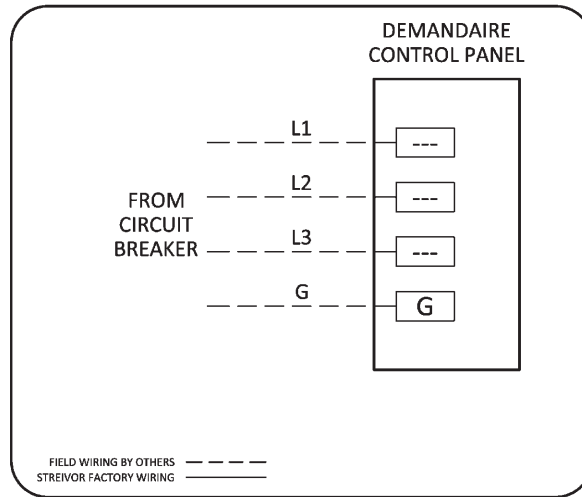

FIGURE 3: VFD Input Power Wiring
- Connect input power to the input power terminal blocks as shown on the DCP Drawings (*Figure 3*).